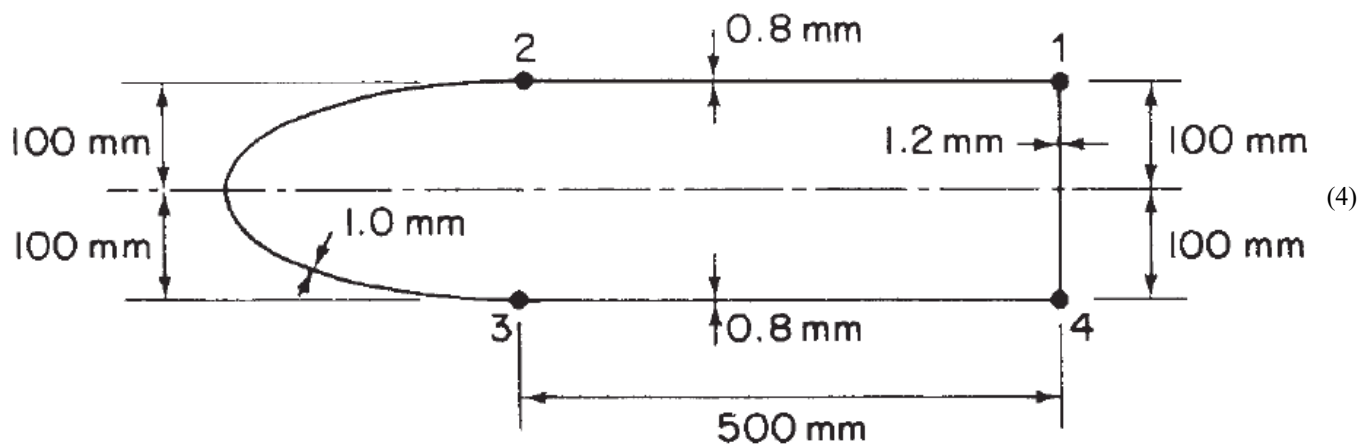

Figure: 6
- 15) Figure 6 shows the cross-section of a single cell, thin-walled beam with a horizontal axis of symmetry. The direct stresses are carried by the booms B_1 to B_4 , while the walls are effective only in carrying shear stresses. Assuming that the basic theory of bending is applicable, Determine the shear flow around the section. The shear modulus G is the same for all walls. Cell area = 135000 mm^2 . Boom areas: $B_1 = B_4 = 450 \text{ mm}^2$, $B_2 = B_3 = 550 \text{ mm}^2$.